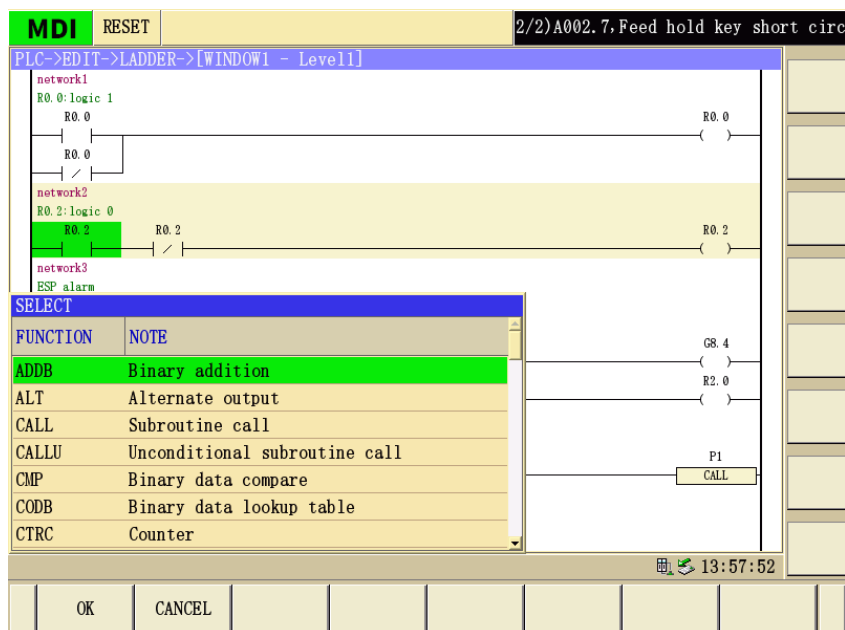
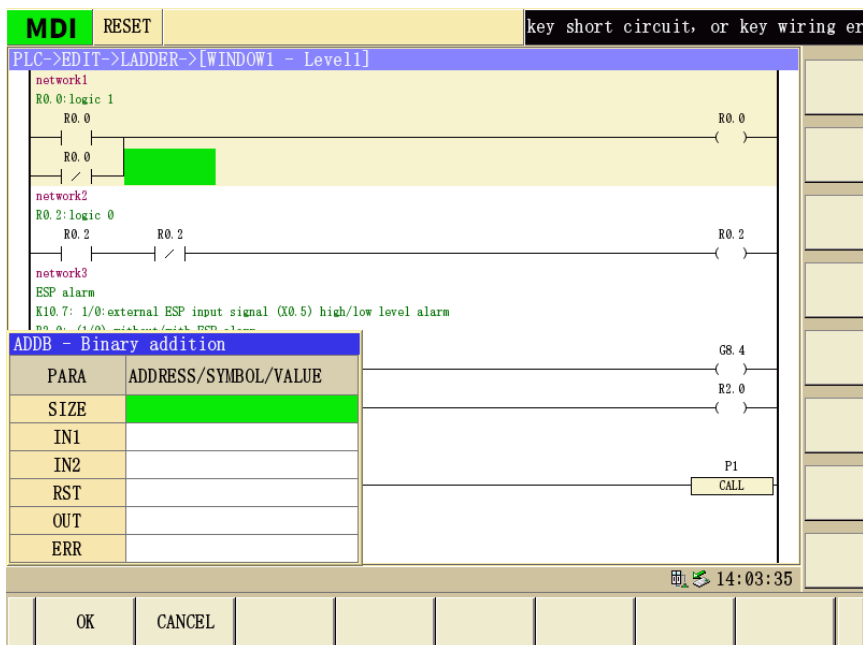

Fig. 1-26
Fig. 1-27
- ④ Press the  soft key to display the screen as shown in Fig. 1-26.
- ⑤ Press  and  keys to select the function instruction to be inserted, as shown in Fig. 1-26 ADDB (binary addition), and press the  soft key or  key to display the page as shown in Fig. 1-27.